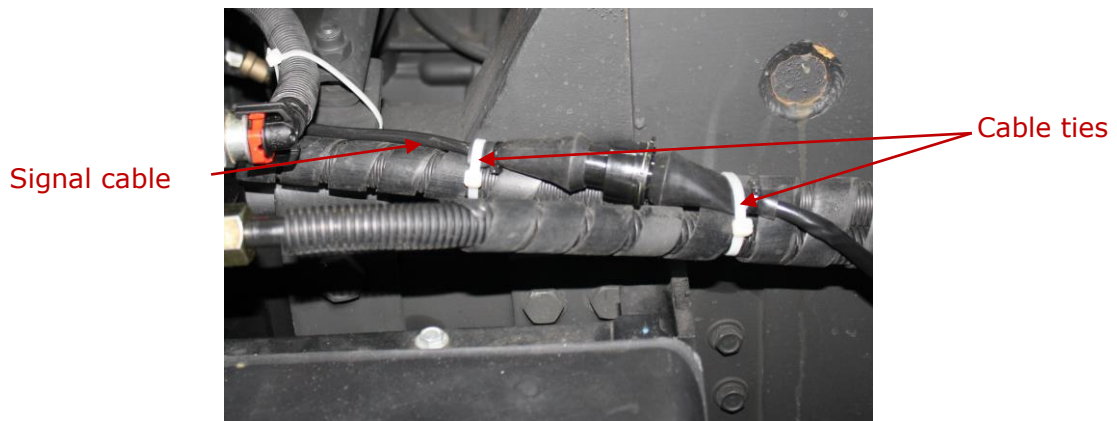

Figure 19 — Signal cable routing
5) It is **strongly recommended** to route the counter's signal cable through the designated wiring areas of the equipped object, at a positive ambient temperature, and secure it with **cable ties** every **50 cm** (see figure19).